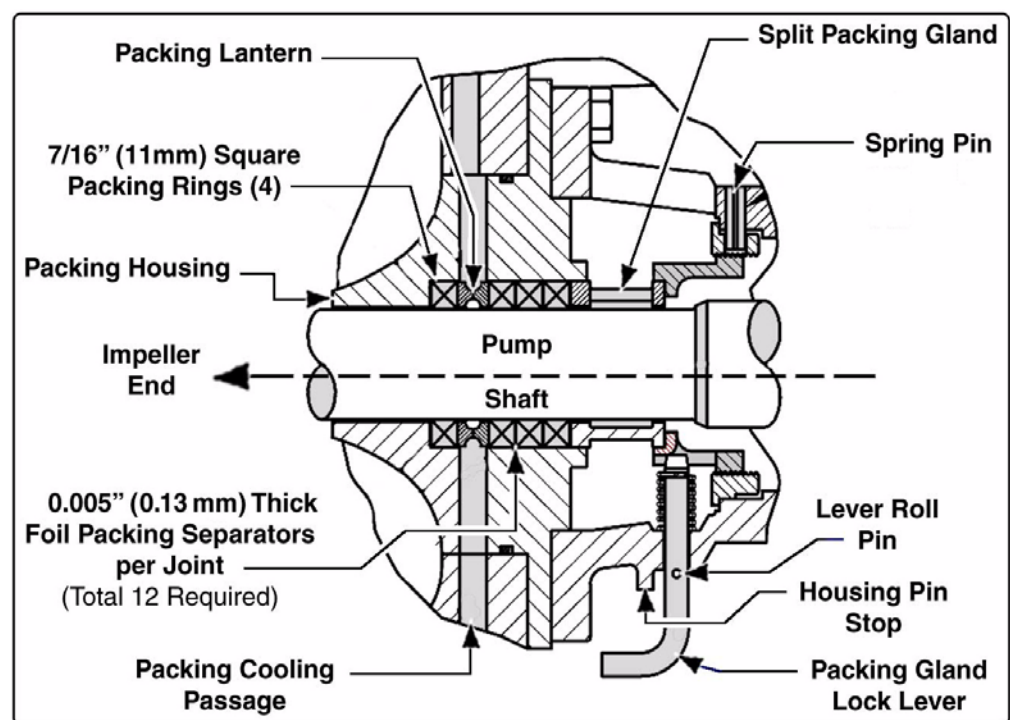
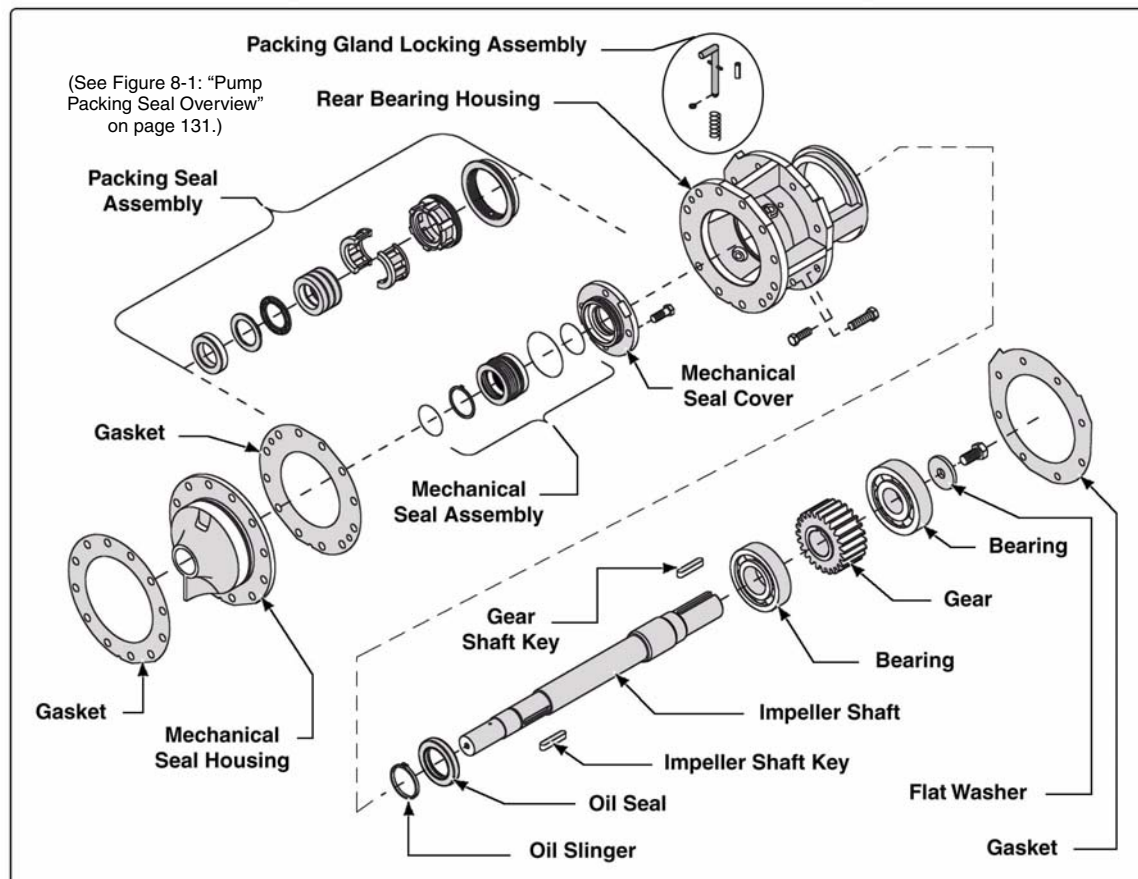

Figure 8-1: Pump Packing Seal Overview
Figure 8-2: Packing / Mechanical Seal Assembly Overview
When the packing adjustment has reached its limit, a single ring of packing can be added. However, it is usually more efficient to repack the pump. (See Figure 8-1: “Pump Packing Seal Overview.”) Also see Figure 8-2: “Packing / Mechanical Seal Assembly Overview” on page 132.
The three rings adjacent to the packing gland can be replaced without disassembling the pump. The ring in front of the lantern does not need to be replaced. (See Figure 8-1: “Pump Packing Seal Overview.”)
1. Loosen the slotted packing nut. (See Figure 8-1: “Pump Packing Seal Overview” on page 131.)